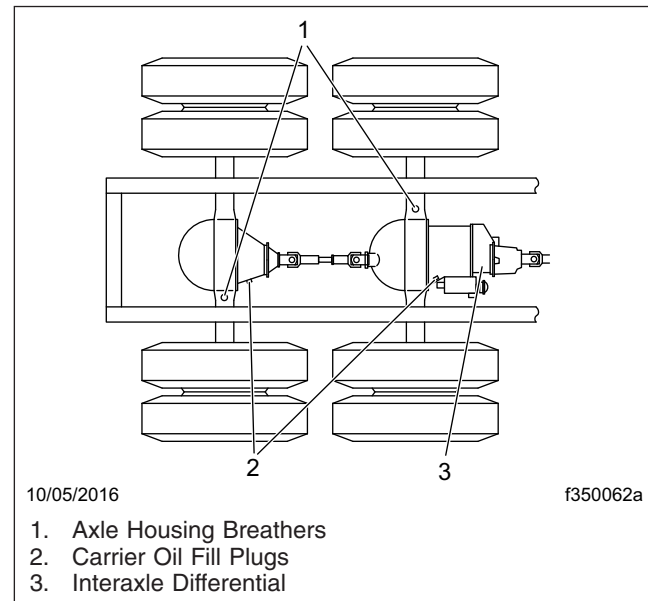

Fig. 2, Fill Hole Plug and Axle Housing Breather Locations
1. Clean the oil fill hole plug located in the carrier or the side of the axle housing and the area surrounding it. See **Fig. 2**. Remove the plug.
The axle housing breather must remain clean. See **Fig. 2**. When the axle lubricant level is checked, check that the axle breather is open. Check more often under poor operating conditions. If the breather is plugged, clean it or replace it as needed.